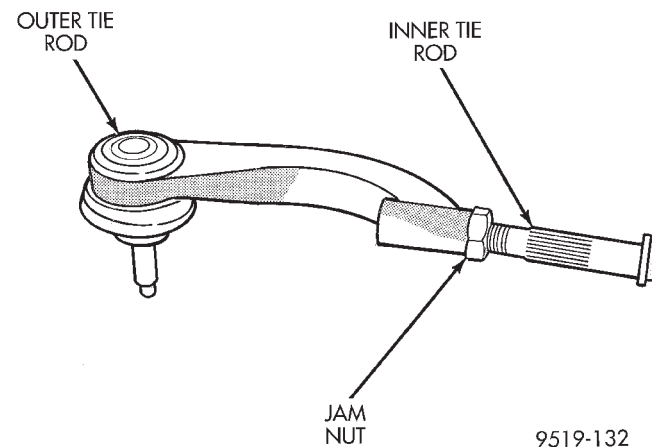

Fig. 27 Inner To Outer Tie Rod Jam Nut
- (2) Remove the front wheels and tires from the vehicle.
- (3) Remove the steering gear from the vehicle. Refer to Power Steering Gear in the Removal And Installation Section in this group of the service manual for the required procedure.
- (4) Securely mount the steering gear in a vise or other appropriate holding fixture.
- (5) Loosen the inner to outer tie rod jam nut (Fig. 27). Remove the outer tie rod from inner tie rod.
- (6) Remove jam nut (Fig. 27) from inner tie rod.
(4) Install inner to outer tie rod jam nut on inner tie rod (Fig. 27).
(5) Install outer tie rod on inner tie rod. Do not tighten jam nut.
(6) Install steering gear assembly back in the vehicle. Refer to Power Steering Gear in the Removal And Installation Section in this group of the service manual for the required procedure.